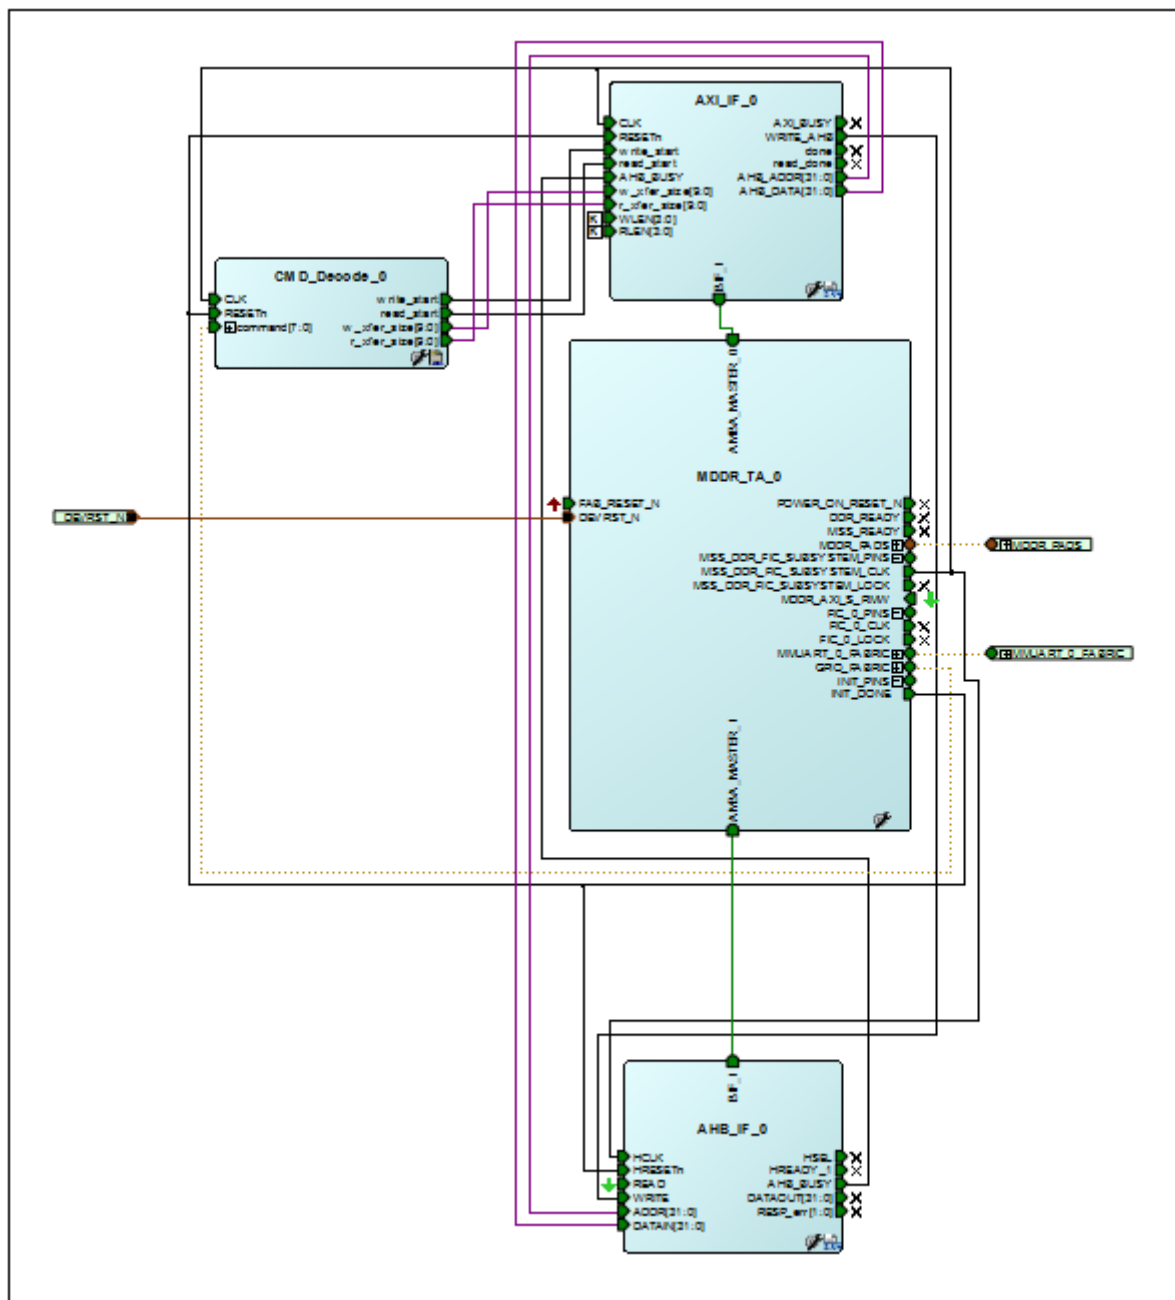

Figure 7 • Top-Level SmartDesign
Figure 7 shows the top-level SmartDesign of the example design.
11. Instantiate the custom logic (AXI master, AHB master, and a command decoder) and connect, as shown in Figure 7 on page 11.